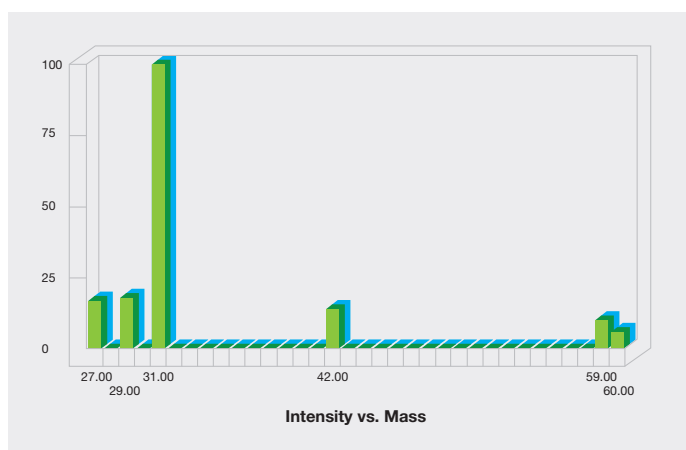
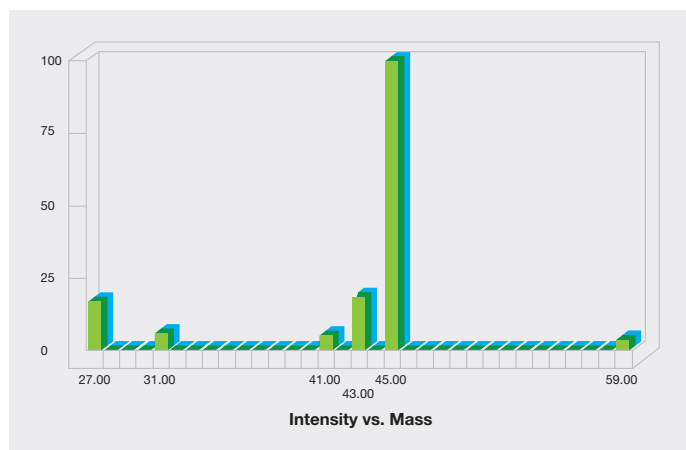

Figure 1: Fragmentation pattern for n-propanol as generated by the Thermo Scientific GasWorks Software.
Figure 2: Fragmentation pattern for isopropanol as generated by the Thermo Scientific GasWork Software.
- Using the fragmentation patterns of the molecules in the mass spectrometer's ion source which are effectively 'fingerprints' to simplify the analysis of even complex mixtures; for example, Figure 1 shows the fragmentation pattern for n-propanol while Figure 2 shows that of isopropanol.